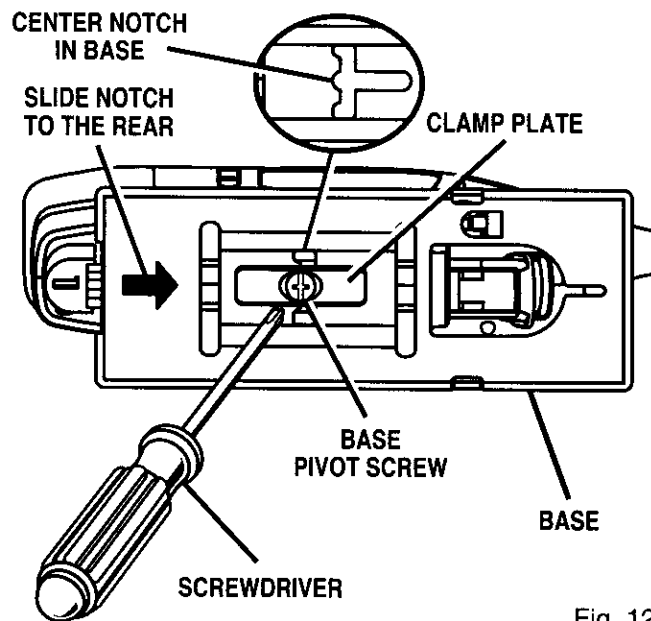

Fig. 12
See Figure 12.
- Using a screwdriver, loosen base pivot screw and rotate base 180° as shown in Figure 12.